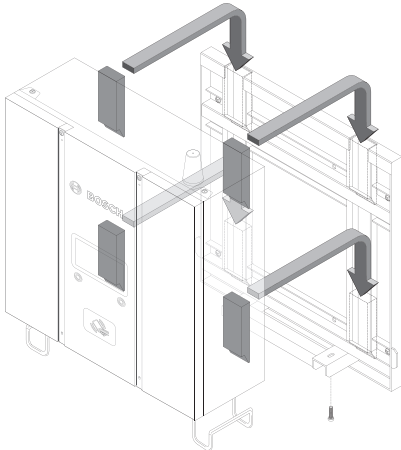

Fig. 6: Installing unit on Wallmount
1. Lower the EV 3000 charging unit onto the mounting bracket, ensuring each of the four tenons on the back side of the EV 3000 charging unit slide into the grooves on the wall mount (see Fig. 6).